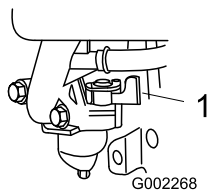

Figure 16
2. Open the fuel valve by moving the lever to the **right** (Figure 16)